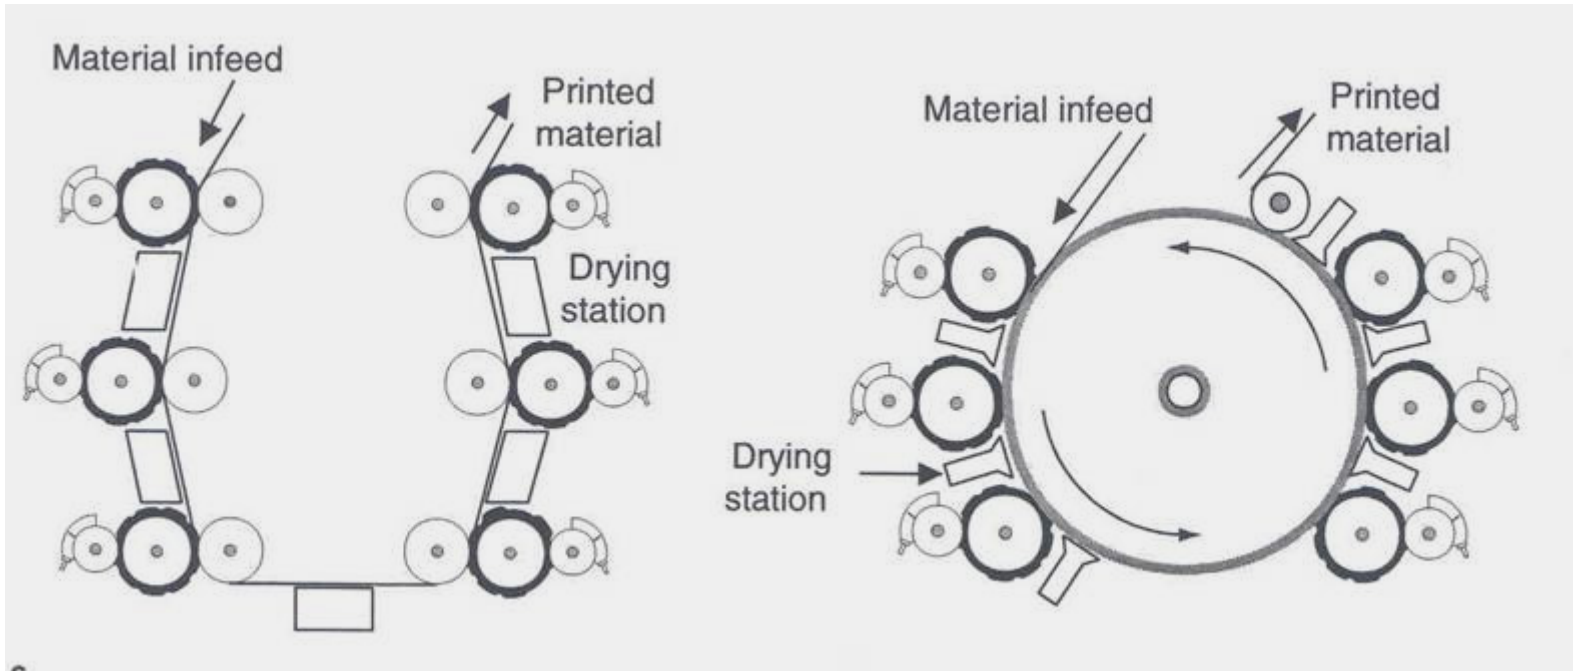

Figure 11.3 A six-color flexographic stack press (left) and a six-color flexographic central impression (CI) press (right)
- Flexographic press stations can be arranged in several ways. (See Figure 11.3) The stack press has individual color stations stacked one above the other, with drying zones between the stations. Each plate cylinder has its own impression cylinder. The central impression (CI) press has printing stations grouped around a single large central impression drum.